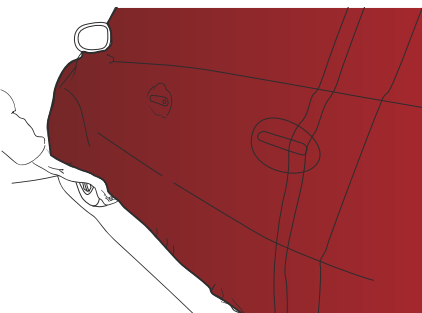

Figure 26
- › Once the door handles are done, hold the film taut down to the bottom of the vehicle body. (FIG. 26)